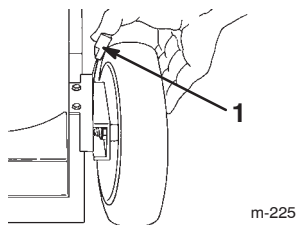

Figure 17
3. Set all 4 wheels in to the 2-1/2 inch (64 mm) cutting height setting (Fig. 17).
1. Pull the wheel height adjustment lever toward the wheel (Fig. 17) and move it to the desired setting.